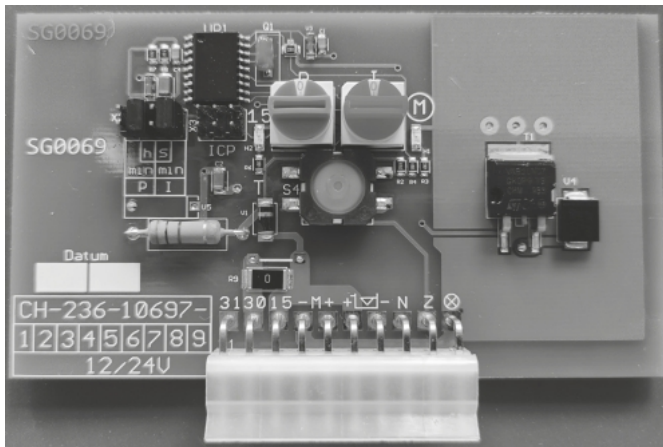

Fig. 1 - Printed circuit board
- The printed circuit board automatically controls the sequence of the pause and operating times of the model J300 central lubrication pump as a function of the vehicle or machine working hours  $t_B$  (Fig.1).